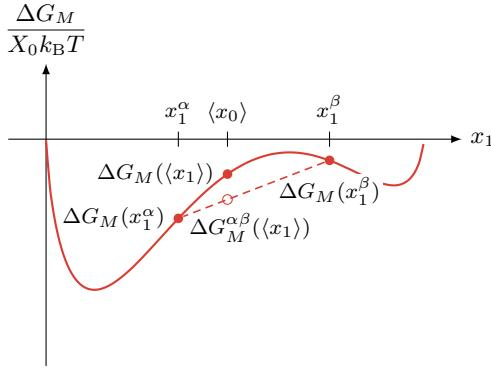

Figure 2.24: Tie lines predict the favorability of demixing.
- Therefore, if the tie line lies above the curve, demixing will raise the energy of the system and will not occur. If the tie line lies below the curve, demixing will lower the energy of the system and will occur. As such, with the choices of $\langle x_1 \rangle$, x_1^α , and x_1^β in Figure 2.24, mixing will occur.